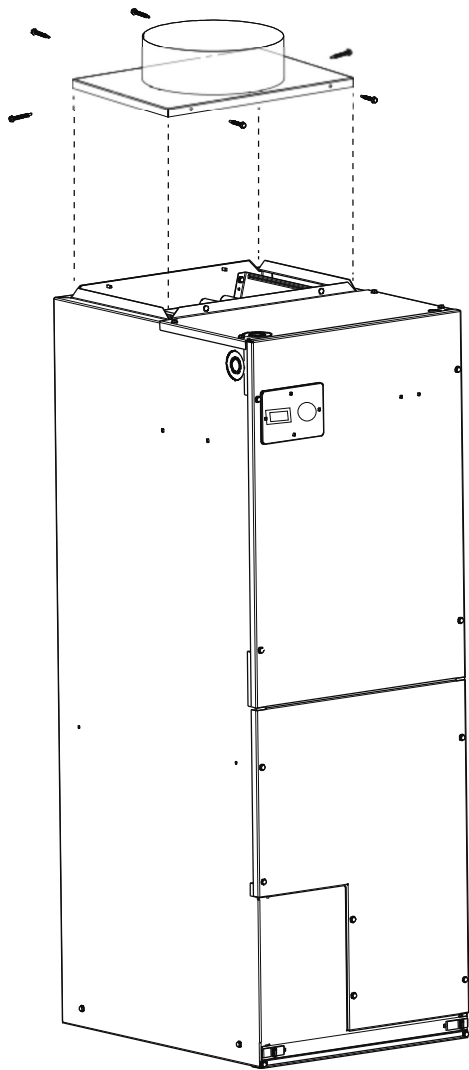

Fig. 2 – Installation Detail
3. Place the panel over the unit's supply air opening. See Fig. 2.
4. Fasten the panel to the supply air out-turned flange using the provided hardware. See Fig. 2.